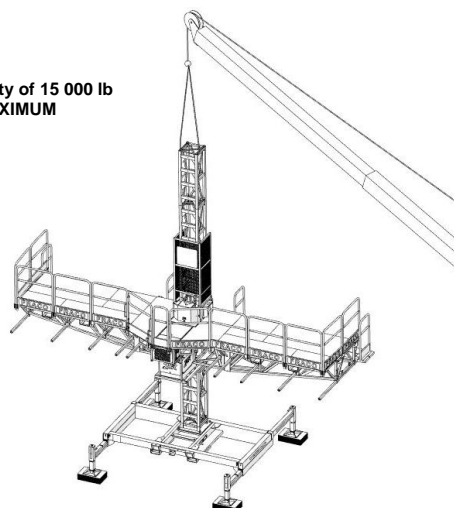

Figure 50
- Lifting operations of assemblies up to a **MAXIMUM** 15 000 lb (6 804 kg) may be carried out using slings (*Figure 50*).
- The assemblies shall have an equivalent load distribution on both (2) sides of the mast's centre of gravity.